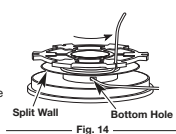
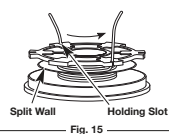

Fig. 14
Fig. 15
3. Insert the end of the other line into the bottom hole in the inner reel (Fig. 14). Wind the line tightly in the direction shown on the bottom of the inner reel until about 3 to 9 inches (75 to 225 mm) of line remains. Keep the line below the split wall. Insert the 3 to 9-inch section into the opposite .095 holding slot (Fig. 15).